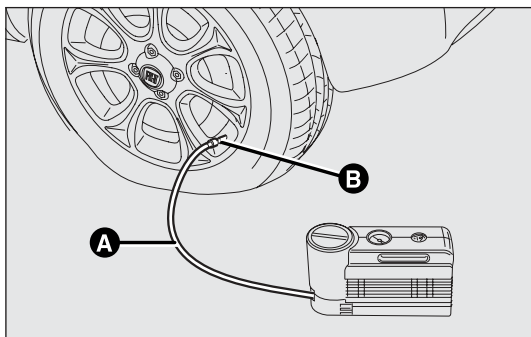

fig. 152
- ☐ Make sure the handbrake is on. Unscrew the tyre valve cap, take out the flexible filler tube A-fig. 152 and tighten the ring nut B on the tyre valve;